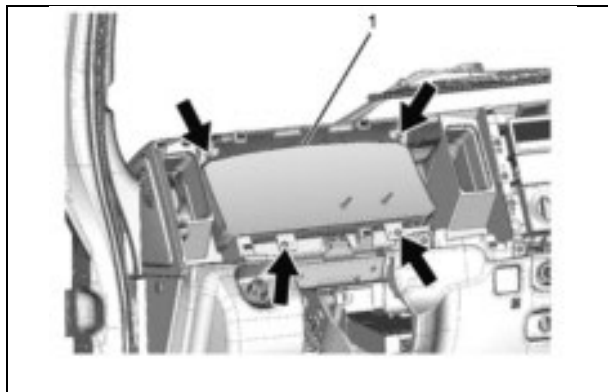

Figure 91
97. Reconnect the instrument panel cluster connector, then install the cluster in the IP and install the four (4) T25 screws removed in Step 54. (See Figure 91.)